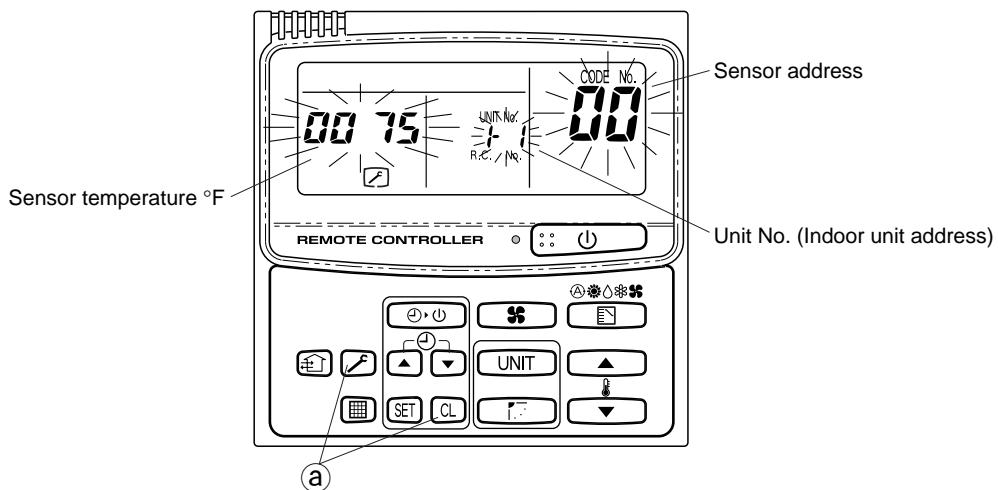

Fig. IV-4
- ⓐ On the remote controller, press both and buttons at the same time for more than 4 seconds. (Ref. Fig. IV-4)
- Each time you press the , () button you can select a different sensor, and the display shows the sensor address and temperature as shown Fig. IV-4.